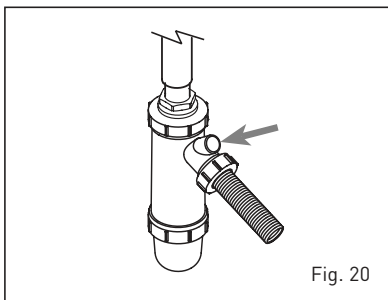

Fig. 20
4.5 MAINTENANCE (fig. 20)
periods of time, it is important that the condensate trap is checked and filled if required. It can be filled via the filling vent, see fig 20.